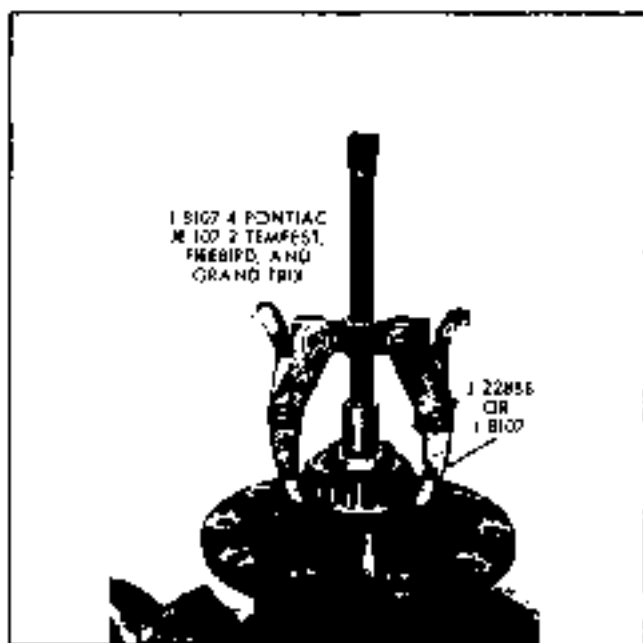

Fig. 4A-24 Removing Differential Side Bearing
9. All except Grand Prix medium duty - drive pinion shaft out of case, using brass drift (Fig. 4A-26).